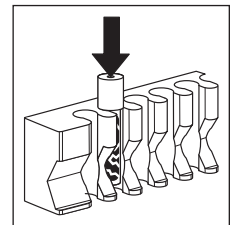

Figure 3
5. Push the activated indicator down to seat it in the metal heating block (See Figure 3). Be sure that the cap remains above the metal block. Refer to the Attest™ Biological Indicator 1264 Instructions for Use for further directions for use, including the interpretation of results and use of controls.